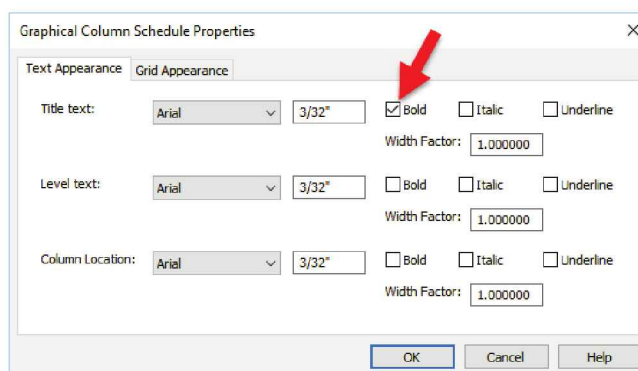

FIGURE 12-4.5 Text Appearance settings
10. Set the *Title Text* to **Bold** (Figure 12-4.5).